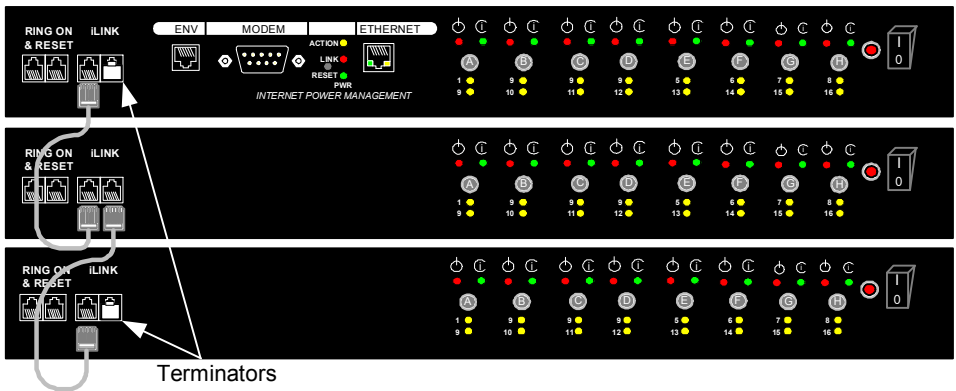

Figure 18 Adding more Slaves
3. Connect another iLink cable to the iLINK ports of the latest Slave to be added and the previous Slave. See Figure 18.